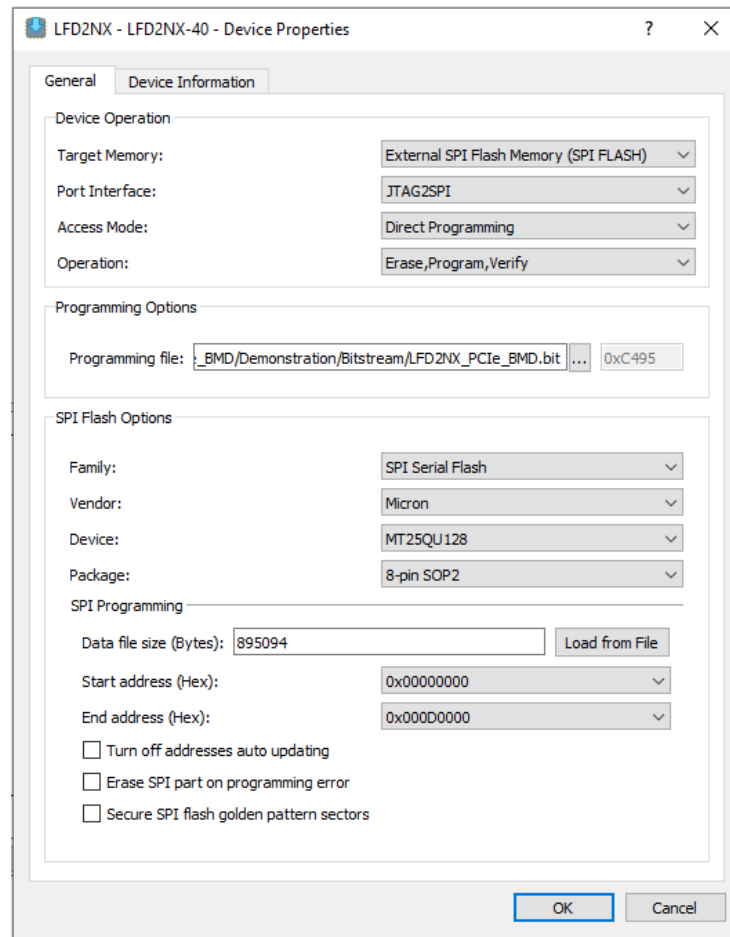

Figure 3.10. Device Properties Window for Certus-NX SPI Flash Programming
- For Certus-NX devices, select the settings as shown in Figure 3.10.